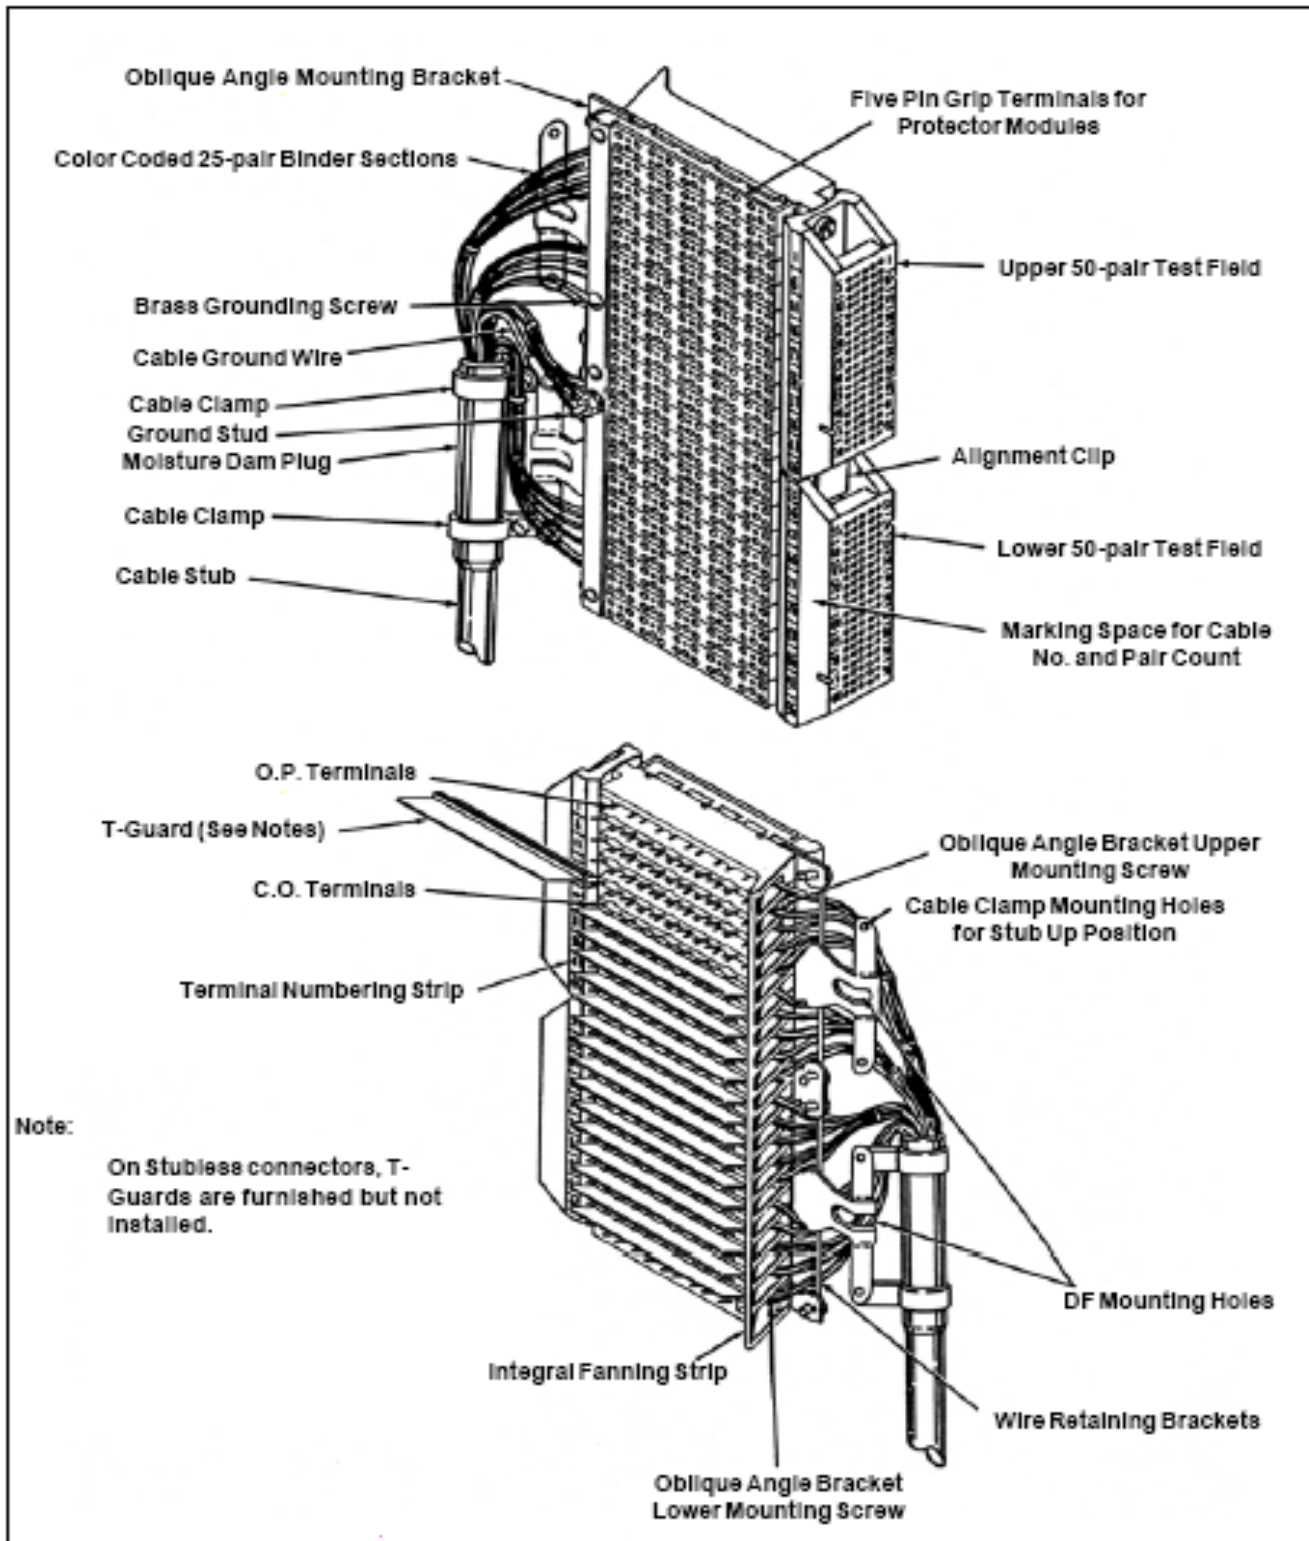

Figure 3 — Connector Base Details
2.3 Connector base. The connector base (Figure 3) is a one-piece, flame retardant plastic molded panel fastened to an oblique mounting bracket. Oblique angle mounting is used for easy access and rapid grouping of pairs in stubs being wired to stubless connectors. The mounting is quickly changed to the final straight-on position for wiring to the jumper terminals. The connector base panel is equipped with a group of 100 five-pin grip type terminals. Four of these terminals provide contact for tip and ring connections between outside plant cable and the inside plant jumpers. The fifth terminal provides a group connection to the ground terminal through a unique printed circuit board. This fifth terminal also serves as a polarization terminal.